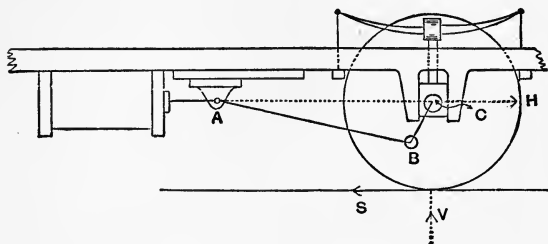

Fig. 4.
4. For the outside cylinder locomotive diagrammatically represented in fig. 4 a close approximation to the inertia effects of the connecting rod is obtained by considering its mass to consist of 80 lbs. and 240 lbs. concentrated at A and B respectively. The length of the C.R. is 6 feet, the length of the crank is 12 inches, the diameter of the driving wheels is 5 feet, the combined mass of the piston, piston-rod and cross-head is 170 lbs., the downward pressure on the wheel exerted by the spring is 20,000 lbs., and the engine is running at a speed of 60 miles per hour. Consider the position defined by $ACB = 45^\circ$, in which the thrust on the piston due to steam pressure is 10,000 lbs.